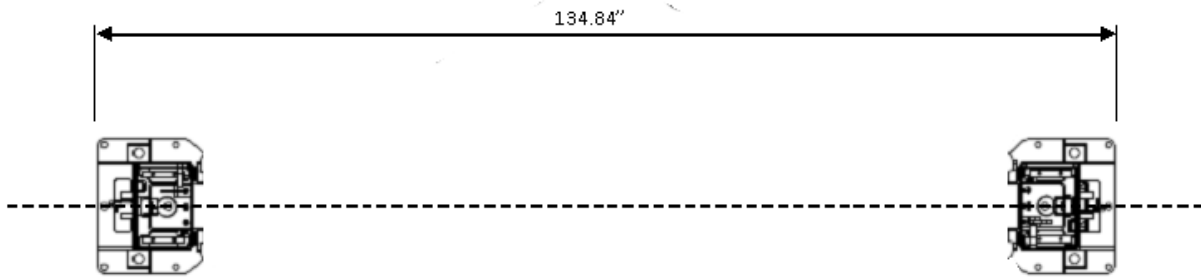

Figure 1 Column Layout
4. Move the power side column into place over the 90° chalk line. On an asymmetrical lift be careful to line up the locator marks on the lift base-plate, to the chalk line on the floor. On a symmetrical lift, align the column center to the chalk line as shown in Figure 1.
5. Move the other column into place once again. On an asymmetrical lift be careful to line up the locator marks on the lift base-plate, to the chalk line on the floor. On a symmetrical lift align the column center to the chalk line as shown in Figure 1.